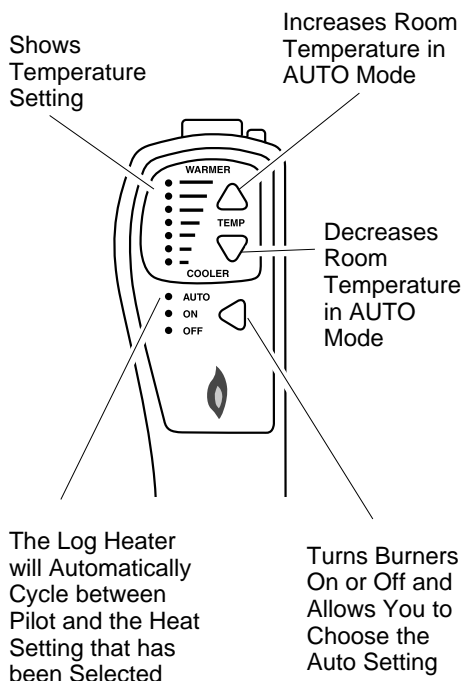

Figure 38 - Thermostat Hand-Held Remote Control Unit Selections (GHRCTA Series Only)
- 2b. Press the AUTO/ON/OFF button on the hand-held remote control (see Figure 38, page 20). The lights to the left of the button will show AUTO, ON, or OFF.